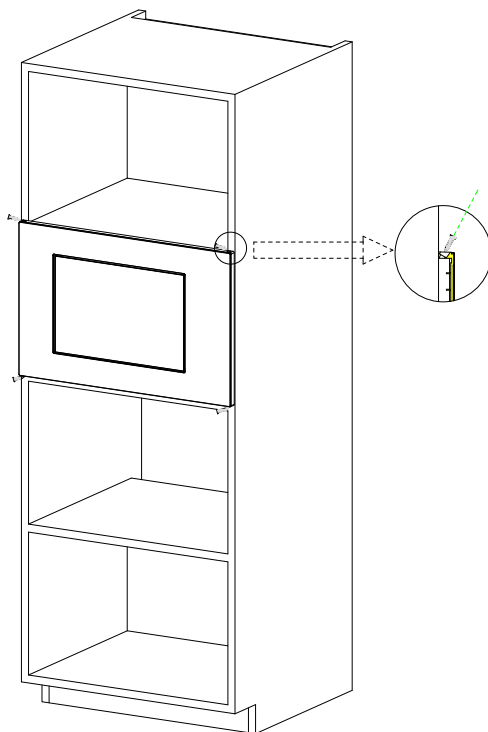

Fig.2
b) Push the microwave oven till the end. (Fig. 2)